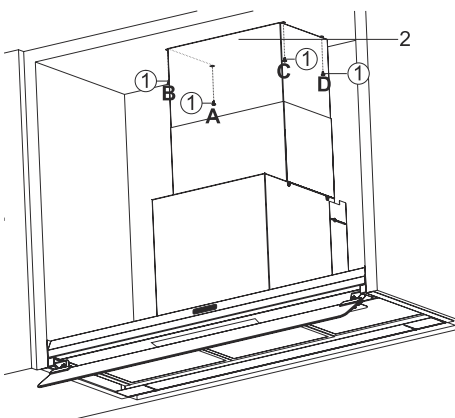

Fig. 17
7. ➔ Pull the interior flue up to the top section of the cabin (Fig. 17).
Using the 4 connection screws through the A, B, C, D points to the kitchen cabin (Fig. 17).